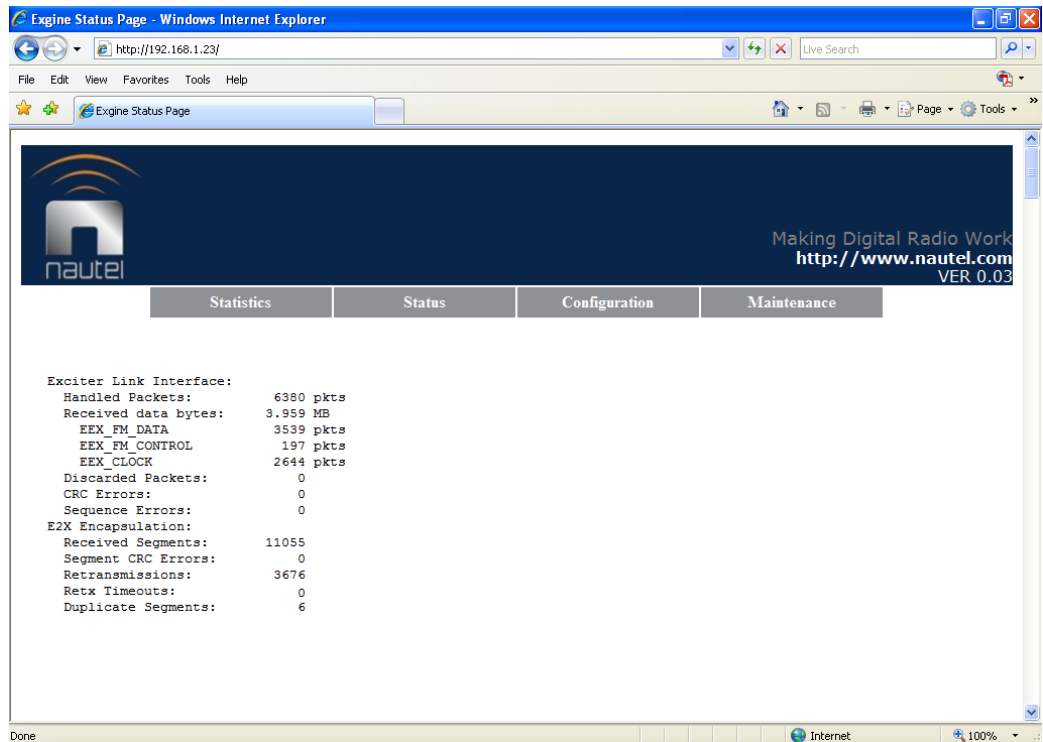

Figure 3-3: Statistics Page (Transmitter Site Reliable HD Transport Unit)
From the web browser's main page, click on the **Statistics** web page (see Figures 3-3 and 3-4) to display information relating to lost and recovered data. The segment packet counts indicate received data so they should be continuously increasing. Ideally, error, retransmission and timeout counts should be zero (0), however the 'Retransmissions' count is expected to increase over time. Changes in the 'Retx Timeouts' count indicates unrecovered data loss, which would have corresponded to a broadcast outage. Increases in this count should be very infrequent.